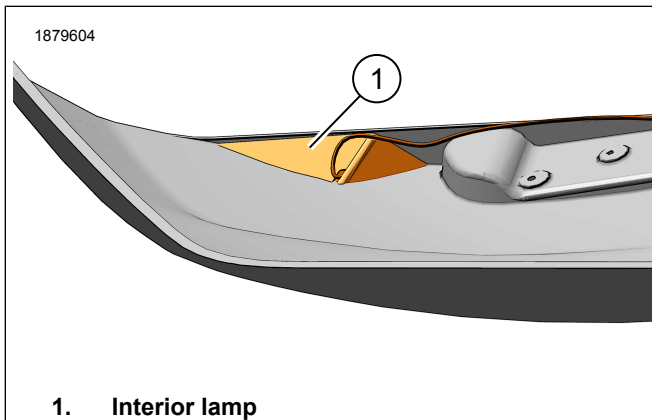

Figure 6. Saddlebag Interior Lamp, Left
7. Figure 6 Test fit and install interior lamp (1).